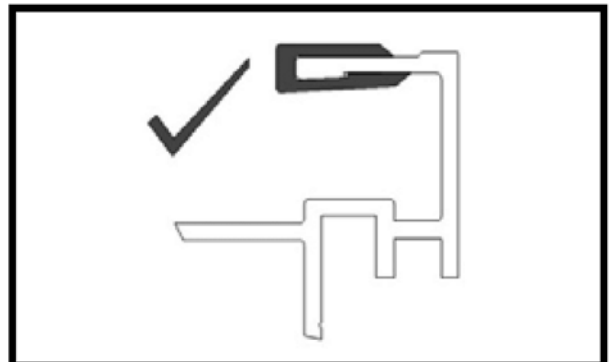

**Figure 47**
1. Start the wear strips (**Figure 47, item 1**) at an idler end (**Figure 47, item 2**) of conveyor. Separate the top and bottom flange of the wear strip at the end of rail and press into place.